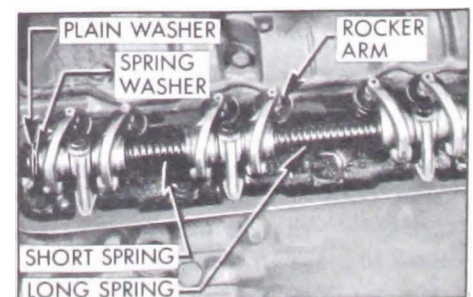

Figure 2-17—Rocker Arm and Shaft Assembly
3. Assemble springs, rocker arms and brackets on shaft as shown in Figure 2-17. Note that the long spring is at middle of shaft, the valve ends of all rocker arms slant toward middle of shaft, and a bracket is located between each pair of rocker arms.